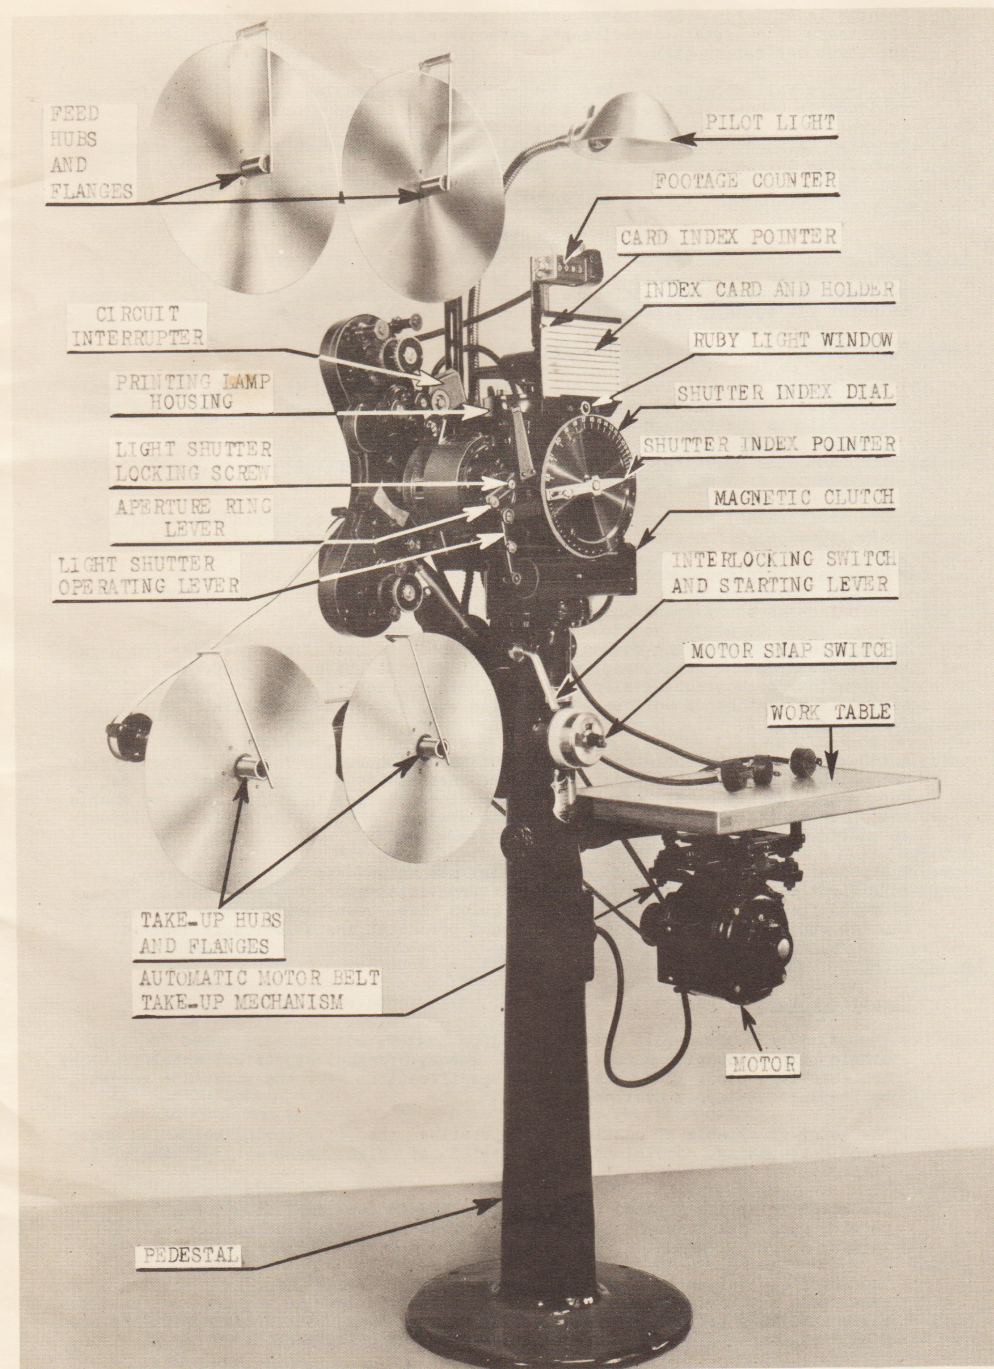

FIGURE 2 - MODEL D 35mm PROFESSIONAL SEMI-AUTOMATIC CONTINUOUS FILM PRINTER.
1. (See figure 2.) Attach the footage counter in its place on the back of the card holder, using the four fillister head screws which will be found in their respective locations.
4. (See figure 2.) Attach the electric motor to the motor belt automatic take-up mechanism by means of the four bolts provided, so that the motor pulley is toward the back of the printer.
5. (See figure 2.) Loosen the screw in flange and slide each of the take-up flanges onto their respective hubs. Tighten the screw so that it engages in the slot in hub. This screw also serves as a stop to the flanges.
1. The 35mm Semi-Automatic Continuous Film Printer, Model D, figure 2, is designed to print all sound or silent 35mm motion picture film.
1. Electric Motor. (figure 2.)
2. Combination Interlocking Switch and Starting Lever. (figure 2.)
6. Feed Hubs. (figure 2.)
7. Take-up Hubs. (figure 2.)
8. Footage Counter. (figure 2.)
- (c) (See figure 2.) A small ruby window is located below the index card so that the operator can see at all times whether or not the printer lamp is burning. This obviates any possibility of a roll of film being developed without being exposed, should the lamp fail.